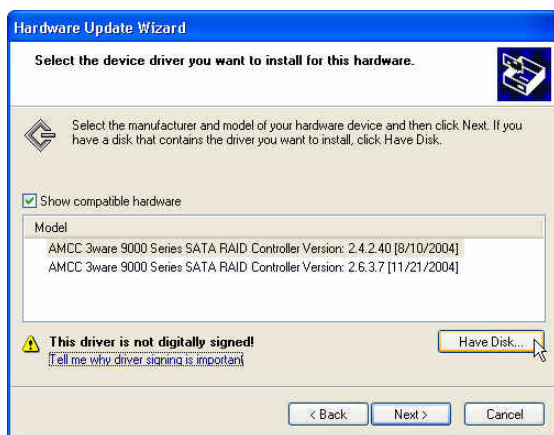

Figure 18. Completing Found New Hardware Wizard
- 4 When the Completing the Found New Hardware Wizard screen appears (Figure 18), click **Finish**.
- 5 If the “Completing” screen similar to Figure 18 indicates that you should restart your computer, do so now.